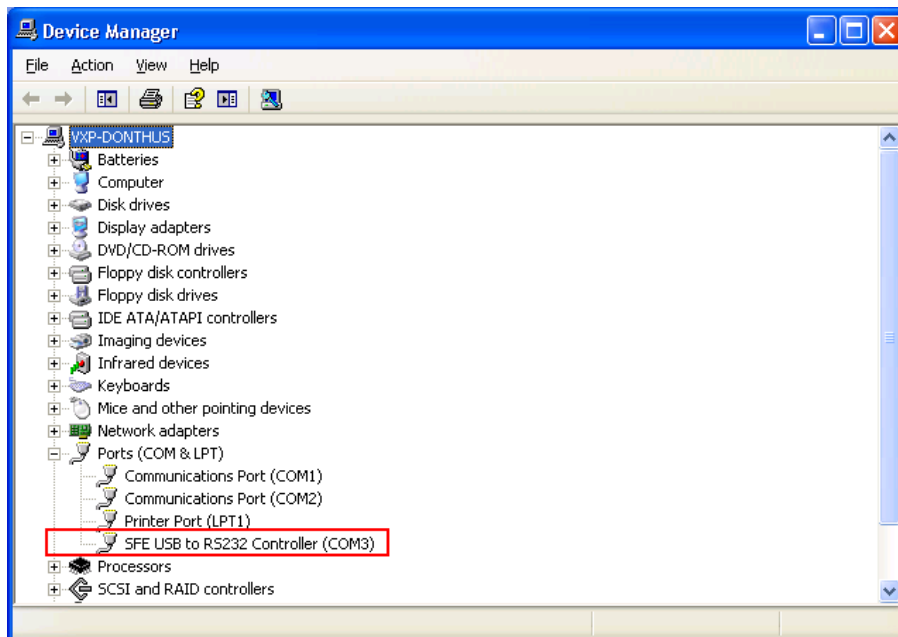

Figure 21 · Device Manager Listing SFE USB to RS232 Controller Drivers
2. If the SFE USB to RS232 Controller drivers are automatically detected (this can be verified in Device Manager), as shown in Figure 21 , go to the next step. If not, follow Step 8 – Installing Drivers for the USB to RS232 Bridge to install drivers for the USB to RS232 Bridge.